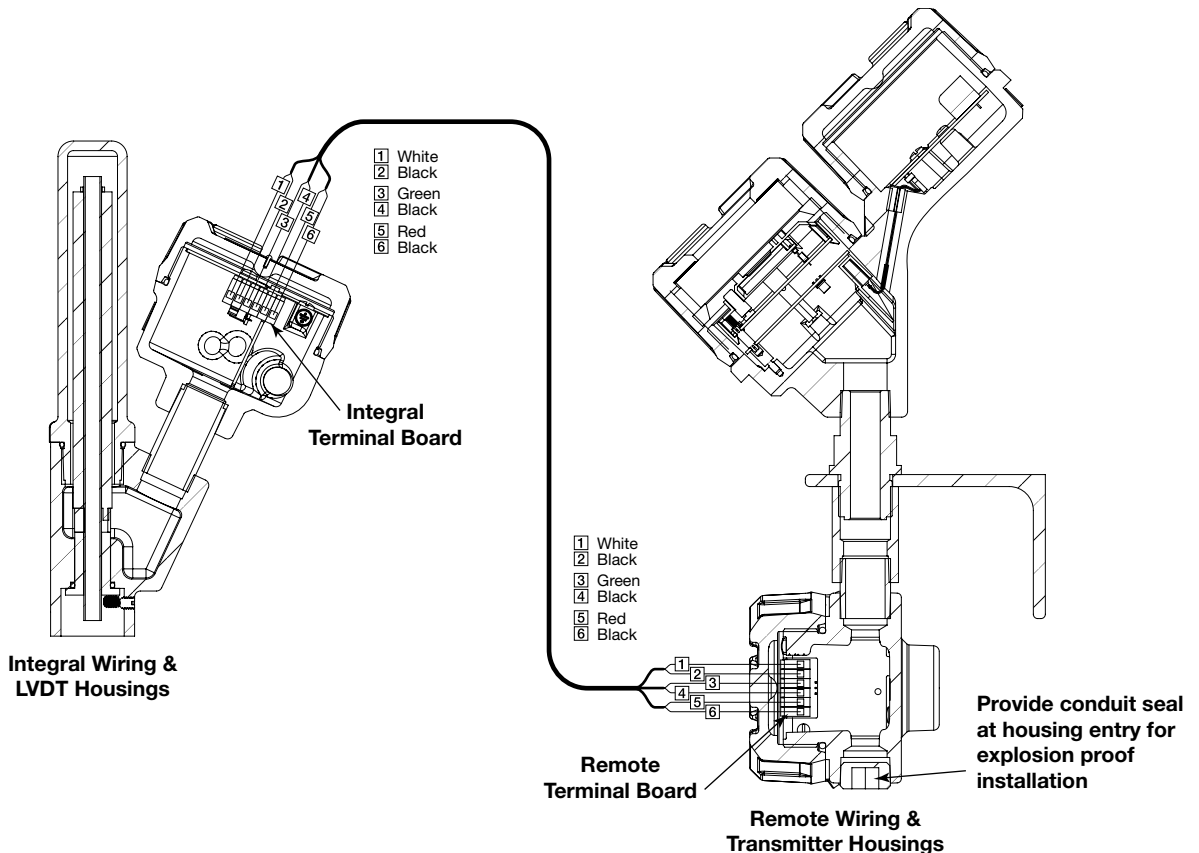

Figure 12
Wiring between the power supply and the E4 Modulelevel transmitter should be made using minimum of 18 AWG shielded twisted pair instrument cable. Wiring must be suitable for temperatures up to at least +85 °C. Within the transmitter enclosure, connections are made to the terminal strip and the ground connections. When installing a remote mount E4 transmitter, refer to Figures 12 & 13 for wiring connections.
3. Connect one end of the six conductor cable (P/N 037-3226-xxx or 037-3227-xxx) to the integral terminal block and the other end to the terminal block within the remote terminal board housing. Be sure to match the six discrete numbered wires with the numbers on each terminal block. See Figures 12 & 13.
1. Install Explosion Proof conduit from the remote mounted E4 transmitter head to the integrally mounted terminal housing at the LVDT. An Explosion Proof conduit fitting (EY seal) is required at the enclosure entry of the remote mounted transmitter head wiring housing (see figure 12). Follow steps 2 through 7 of Remote Mount wiring procedure on page 14.